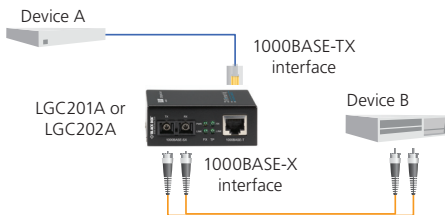

Figure 3-2. Application using one media converter.
2. Place one converter directly between a 1000BASE-TX network segment and a fiber optic network segment as shown in Figure 3-2.